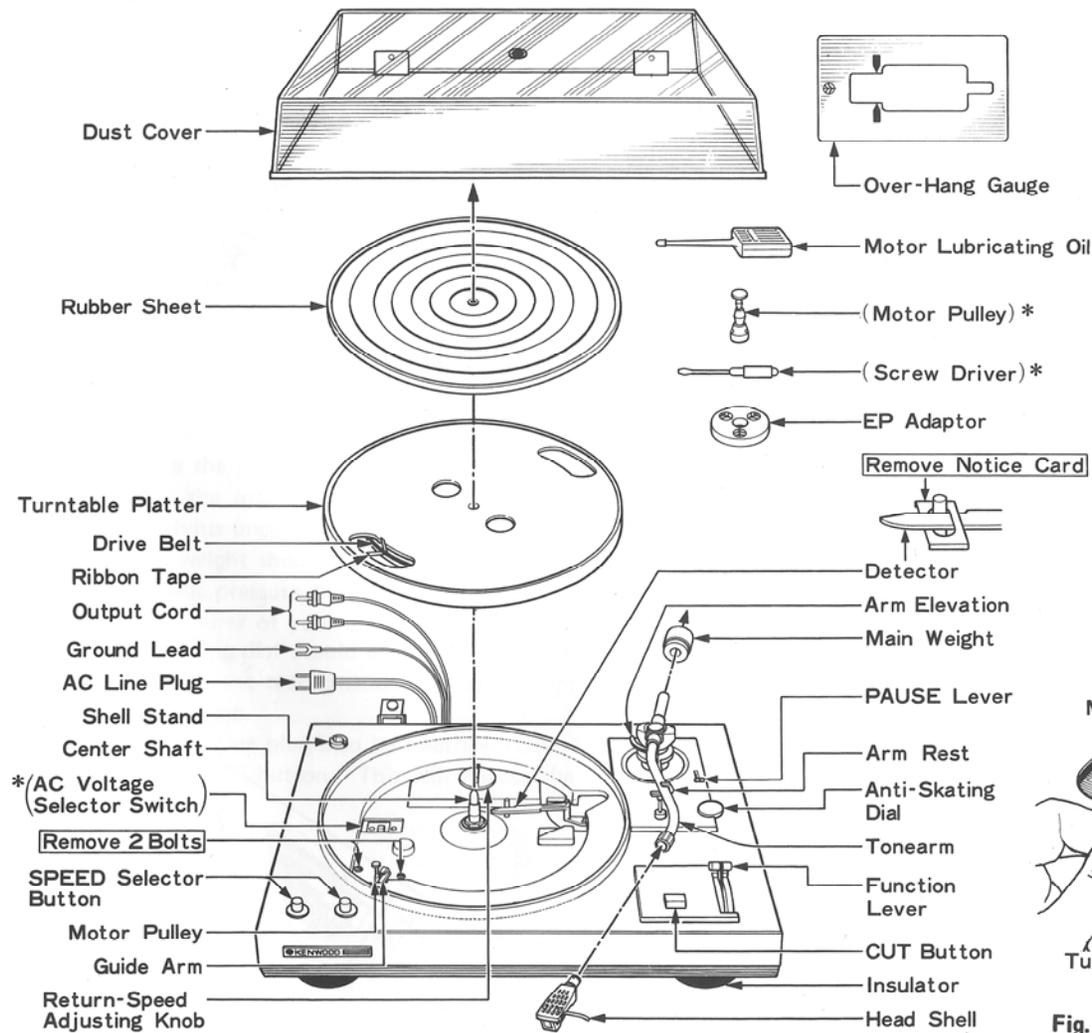

Fig. 3 Location of Parts
1. Refer to Fig. 3 and confirm that all parts are correctly furnished. (See page 8)